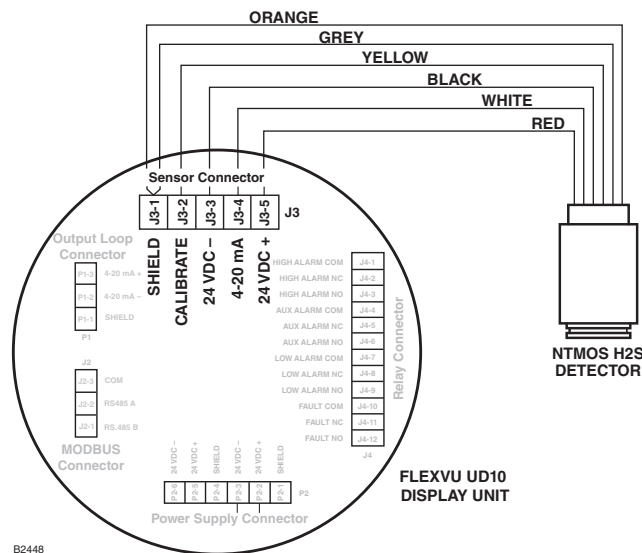

Figure 1—NTMOS Detector Wired to FlexVu Model UD10
2. Terminate all detector wiring at the proper terminals and verify that bonding between detector housing-to-ground terminal is less than 0.1 ohm. Refer to Table 1 and Figures 1 to 4 for wiring details: